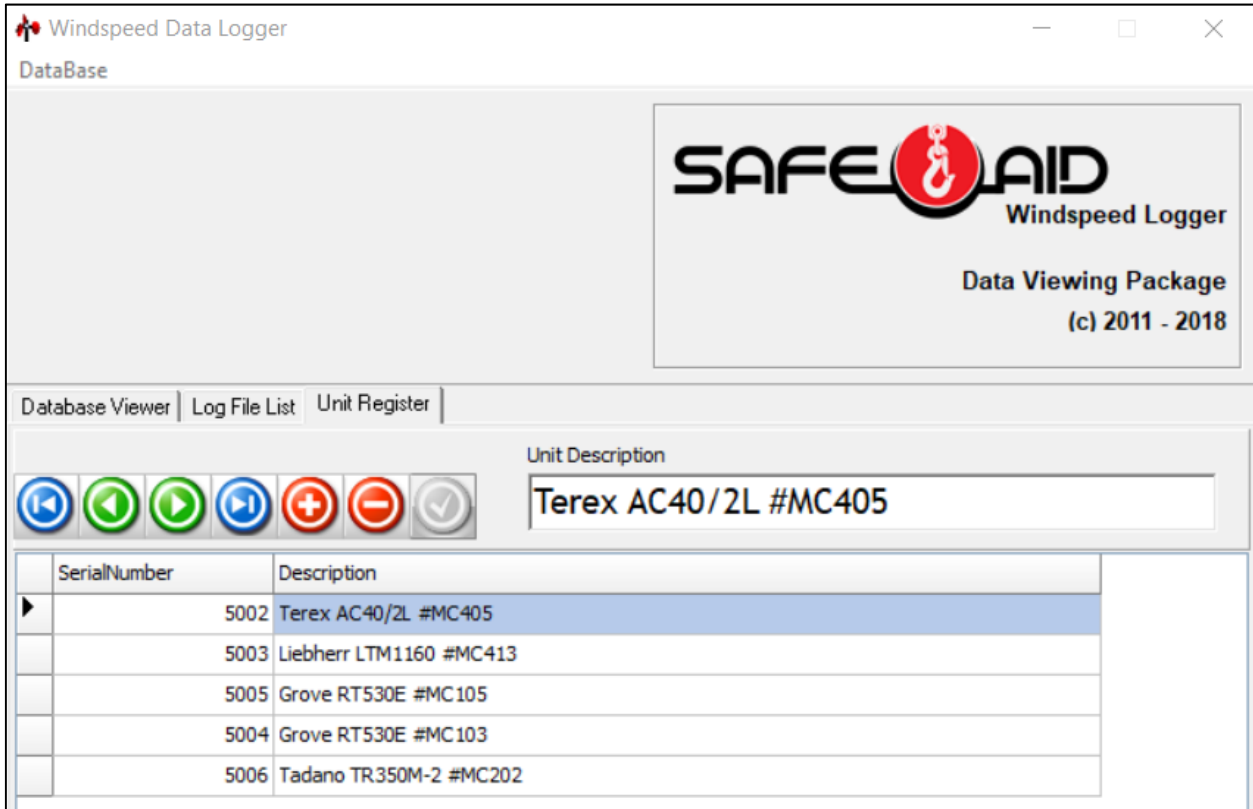

Figure 27
- Once completed the PC should have a list of all the WS400 serial numbers and descriptions (**Figure 27**).